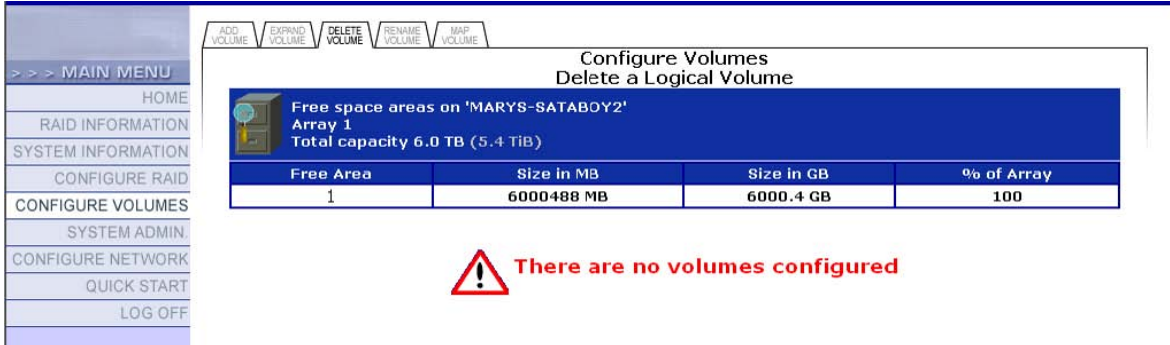

Figure 13
k. Click the **Back** button and repeat steps from e to i until all volumes are created. (See Figure 13)